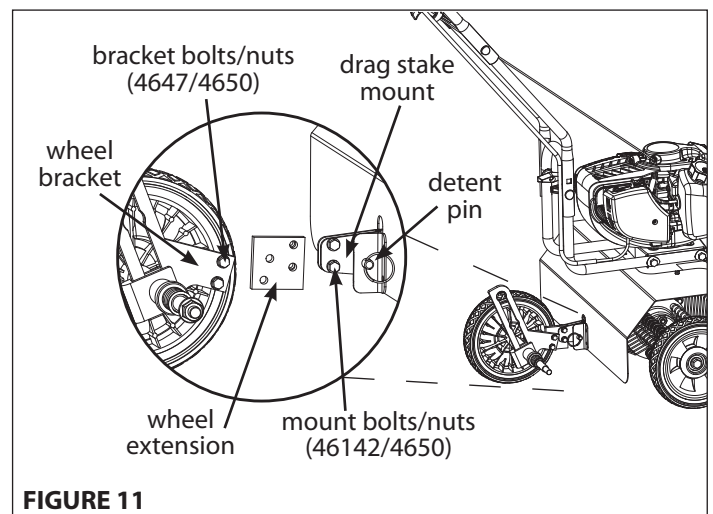

FIGURE 11
2. Unscrew mount bolts/nuts that connect the wheel bracket to the drag stake mount and set wheel bracket aside. **SEE FIGURE 11**
3. Slide dethatcher shield over the unit's tine shield from the rear of the unit and secure using bolts (176) and nuts (400020).
4. Install wheel extension plate (4676) using additional bolts (46142) and nuts (4650). Make sure wheel extension is facing the right direction. (The side, with the two holes flush to the edge, connects to the drag stake mount) **SEE FIGURE 11**